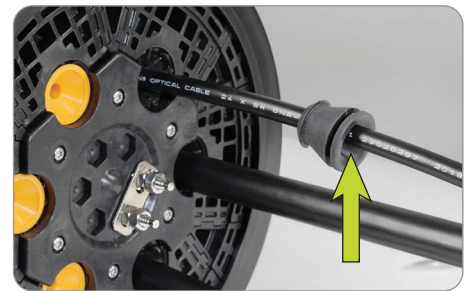

Figure 24
1. Open bushing and install over small or medium diameter cable with the taper toward the base. (Figure 24)